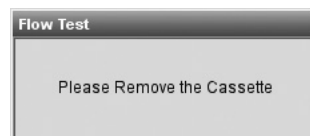

Fig. 8-26 Remove Cassette
- Remove the cassette (Fig. 8-26).